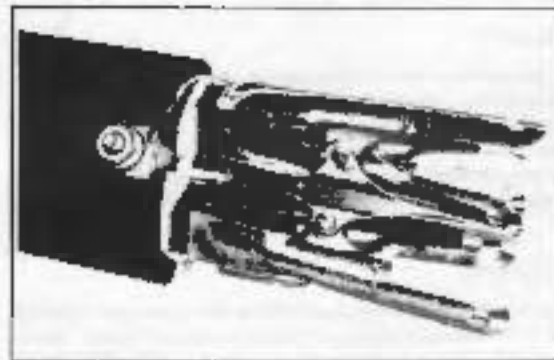

Figure 5-30. Using Clamps to Hold Prestolite Brushes in Place
Reassembly is essentially the reverse of the disassembly procedure. If brushes (9) and (10) and springs (8) have been released from holder, use clips or clamps as shown in Figure 5-30 to hold them in place while installing armature. Note that drive end of frame is notched to fit drive end cover. Line up positioning notch in the brush holder assembly with terminal insulator. Line up positioning mark on commutator and head with motor terminal. Install thru bolts, tightening to 20-25 in-lb torque.